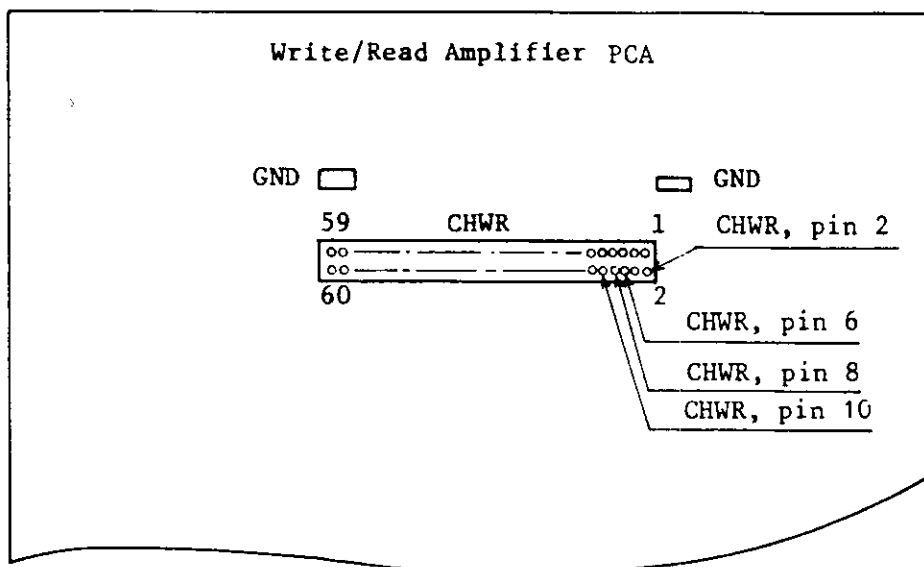

Figure K.18 Check points for write voltage on write/read PCA
- (1) Connect a field tester and load a good quality tape (SRM 3200 or equivalent).
- (2) Set the field tester to the write mode (in phase encode mode), erase mode, or read mode, as shown in the table below.
- (3) Check for voltage at each check point shown in Figure K.18.